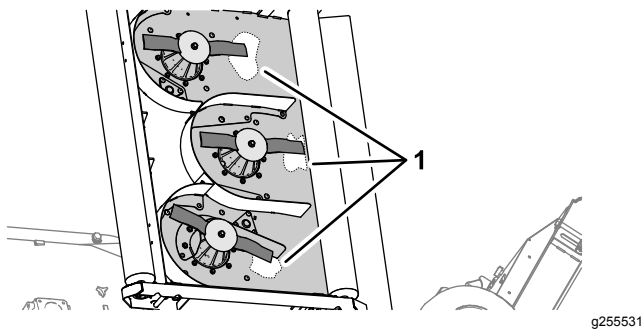

Figure 65
2. Clean the bottom of the mower deck at the area adjacent to the cutting edge at the rear of the blade (Figure 65).